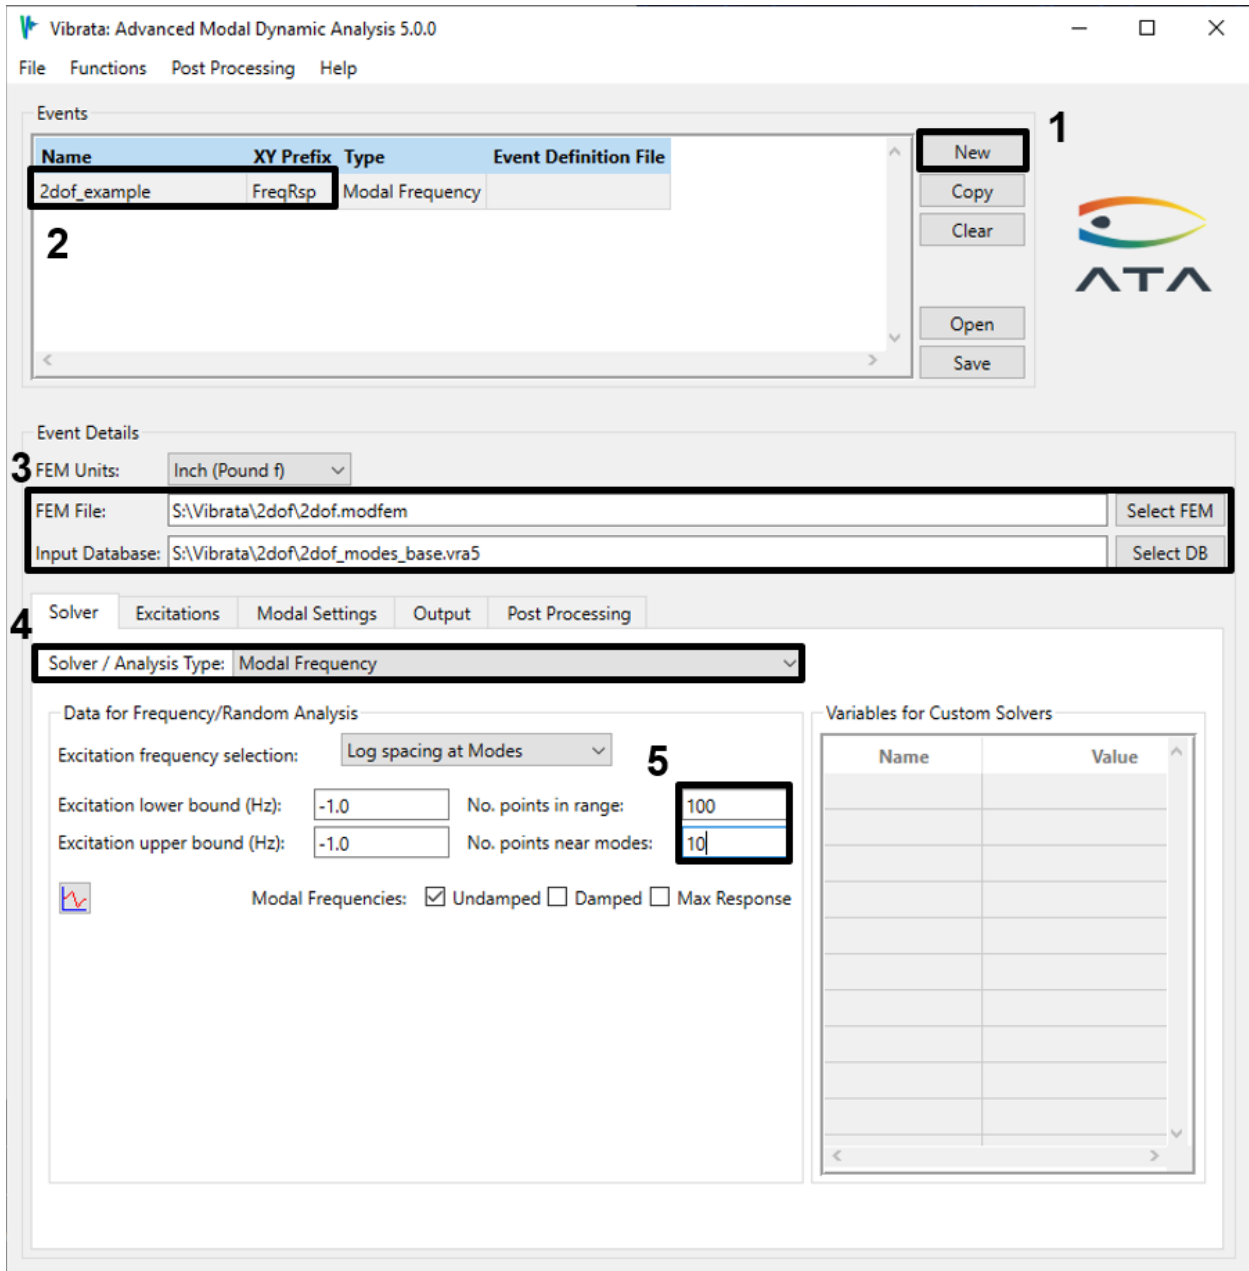

Figure 4-18. Set the number of points at which you want to compute responses.
3. Change the number of points in the range and near modes on the *Solver* tab, as in Figure 4-18. This will refine the discretization in the XY plot. (In real models with perhaps hundreds of modes, this will be far more refinement than you will actually want. Five points on either side of each mode will be plenty, and you may want only two points in the range.)